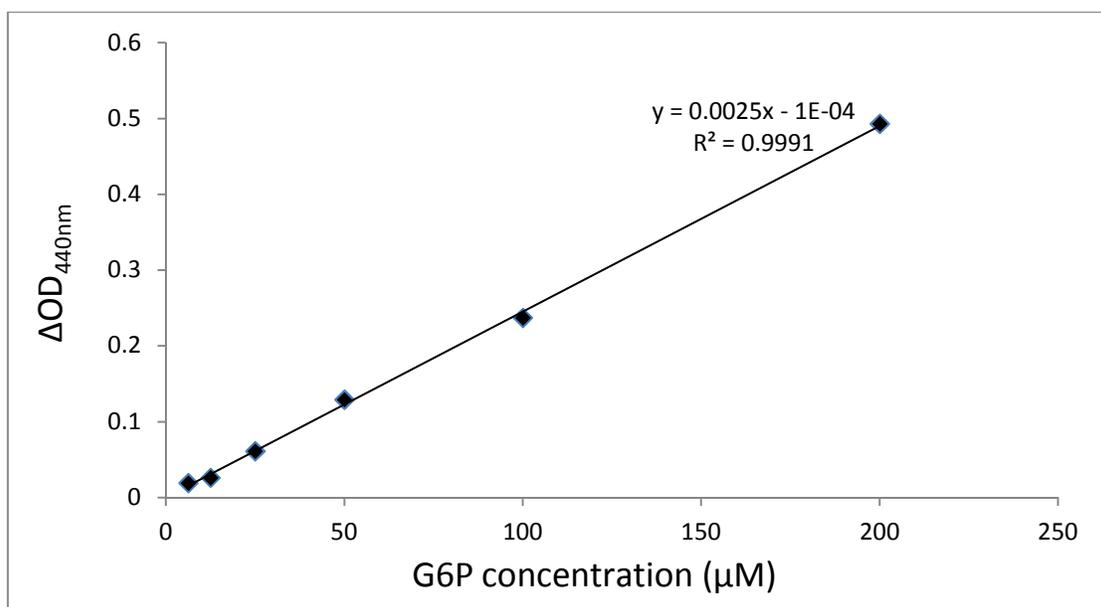

Figure1. A typical G6P standard curve measured by ScienCell™ Glucose-6-phosphate Assay kit
Data from glucose-6-phosphate assay of G6P solutions with concentrations ranging from 1.0 to 500 µM show a linear relationship between OD440nm and G6P concentration (Figure 1).
2. Based on the calibrated  $\Delta\text{OD}_{440\text{nm}}$  of the G6P standard, make a standard curve by plotting  $\Delta\text{OD}_{440\text{nm}}$  as a function of G6P concentration (See Figure 1 for a typical standard curve). Determine the equation and  $R^2$  value of the trend line.